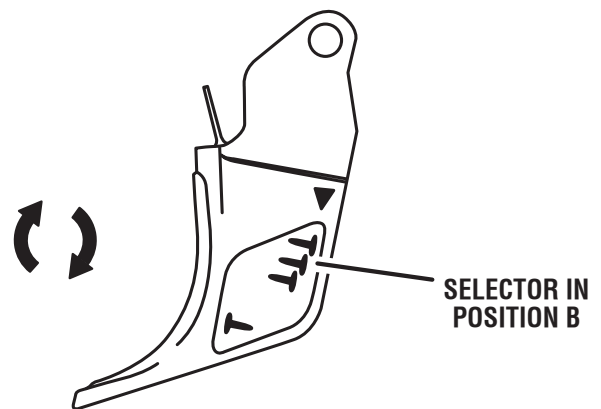

Fig. 17
- Rotate the selectable trigger knob on the trigger to Contact Actuation operation, Position B, as shown in figure 17.